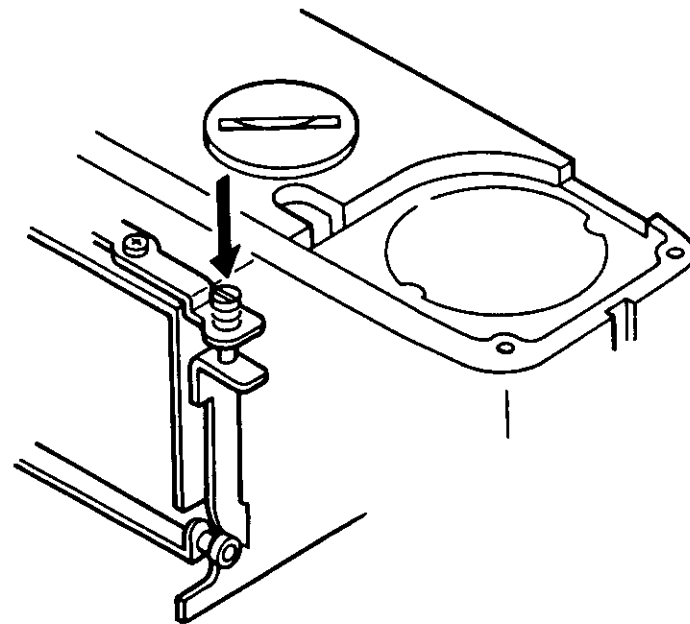

Fig. 55
4. Focusing of finder (see Fig. 55)
Remove the BOTTOM COVER and adjust with SCREW shown by an arrow in Fig. 55.